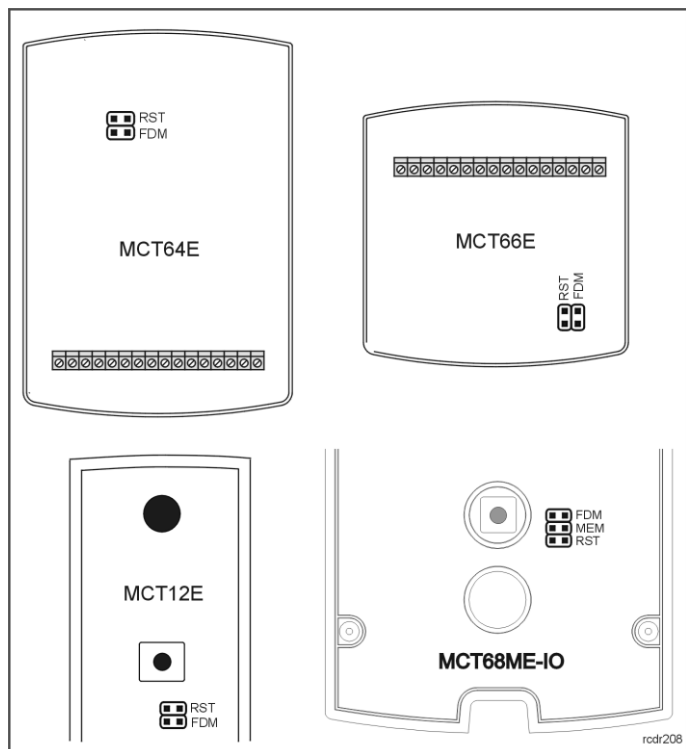

Fig. 2 Location of service contacts.
2. Put jumper on FDM contacts (location of contacts is given on Fig. 2).